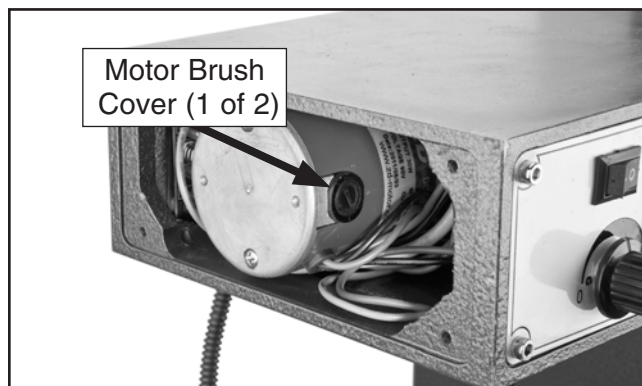

Figure 21. Motor brush cover (1 of 2).
- Using a #2 Standard Screwdriver, remove the motor brush covers from the motor housing (see **Figure 21**).